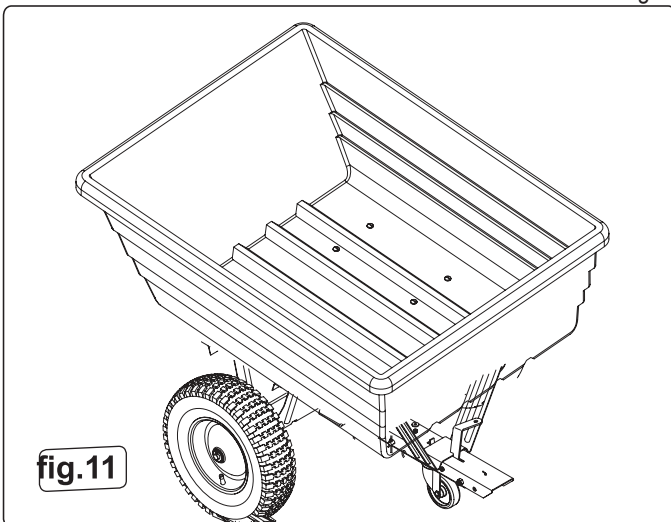

fig.11
- 4.2 If the cart is still in the towing configuration, reverse the process described in section 3.4.2 so that the towing hitch is folded back underneath the tray as shown in figs. 11 and 12. Ensure that the clevis pin and R pin are correctly installed as shown in fig. 5 so that the assembly is safely locked.